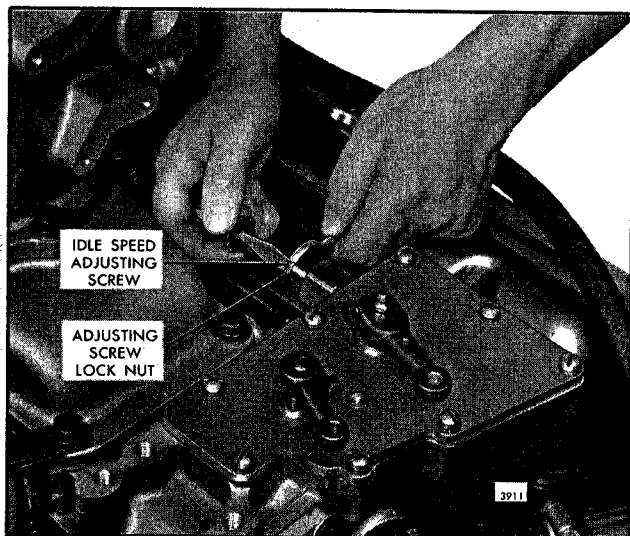

Fig. 5 - Adjusting Engine Idle Speed
1. With the engine running at normal operating temperature and with the buffer screw backed out to avoid contact with the differential lever, turn the idle speed adjusting screw (Fig. 5) until the engine idles at the recommended idle speed. The recommended idle speed is 400-600 rpm, but may vary with the engine application.